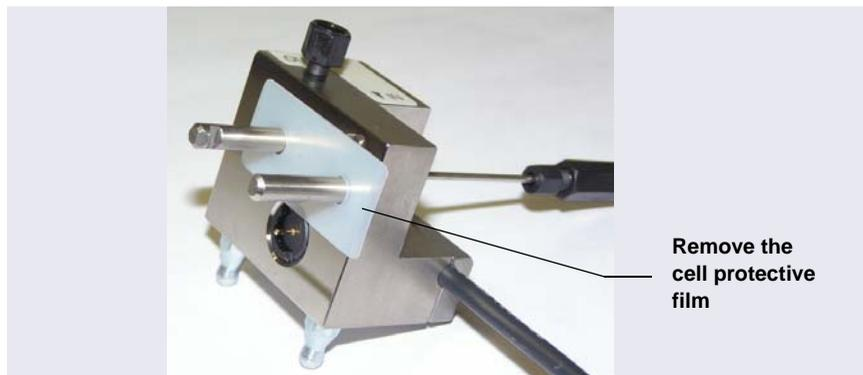

Figure B-3. Removing the Cell Protective Film
5. Remove the protective film from the alignment pins on the cell body (see Figure B-3).